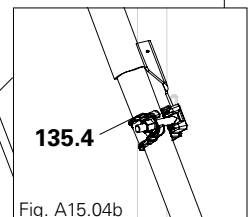

Fig. A15.04b
3. Loosen the bottom coupling (135.4) and extend the multi brace until the required support angle of $\alpha \leq 60^\circ$ has been reached. Tighten the bottom coupling. (Fig. A15.04b)
4. Fit the inner tube (135.2) onto the rear hole (136.4) of the base plate by means of bolts (137) and nuts (138).
5. Fix Base Plate EWB (136) to the substrate.